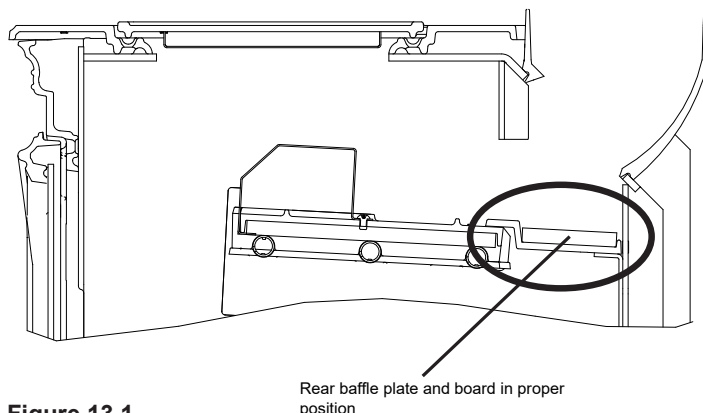

Figure 13.1
1. Confirm the baffle is correctly positioned (**Figure 13.1**).